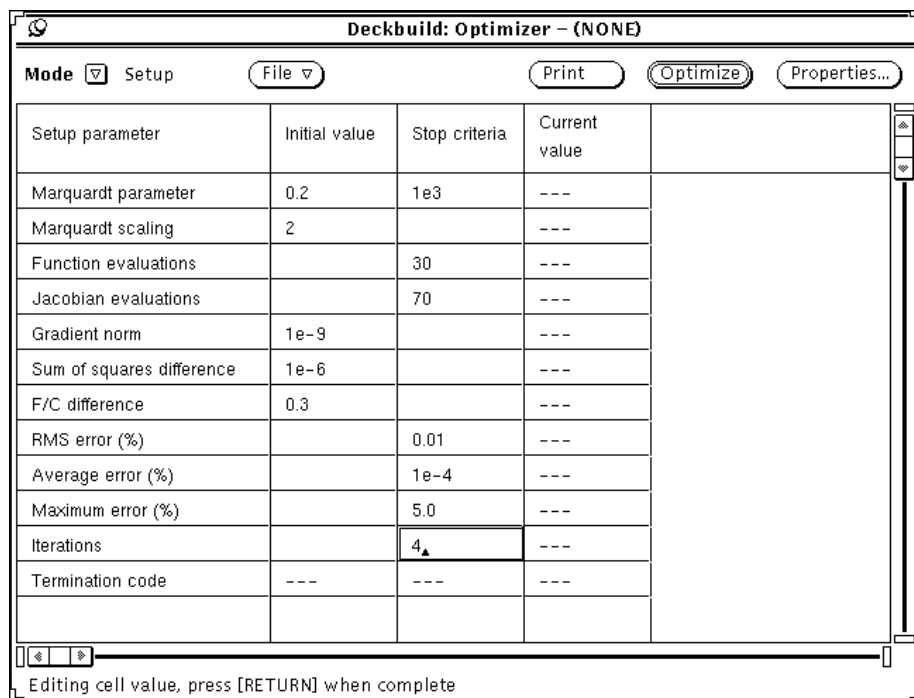

Figure 6-25: Editing a Worksheet Cell
2. Click **SELECT** once. A text caret appears in the cell (Figure 6-25).